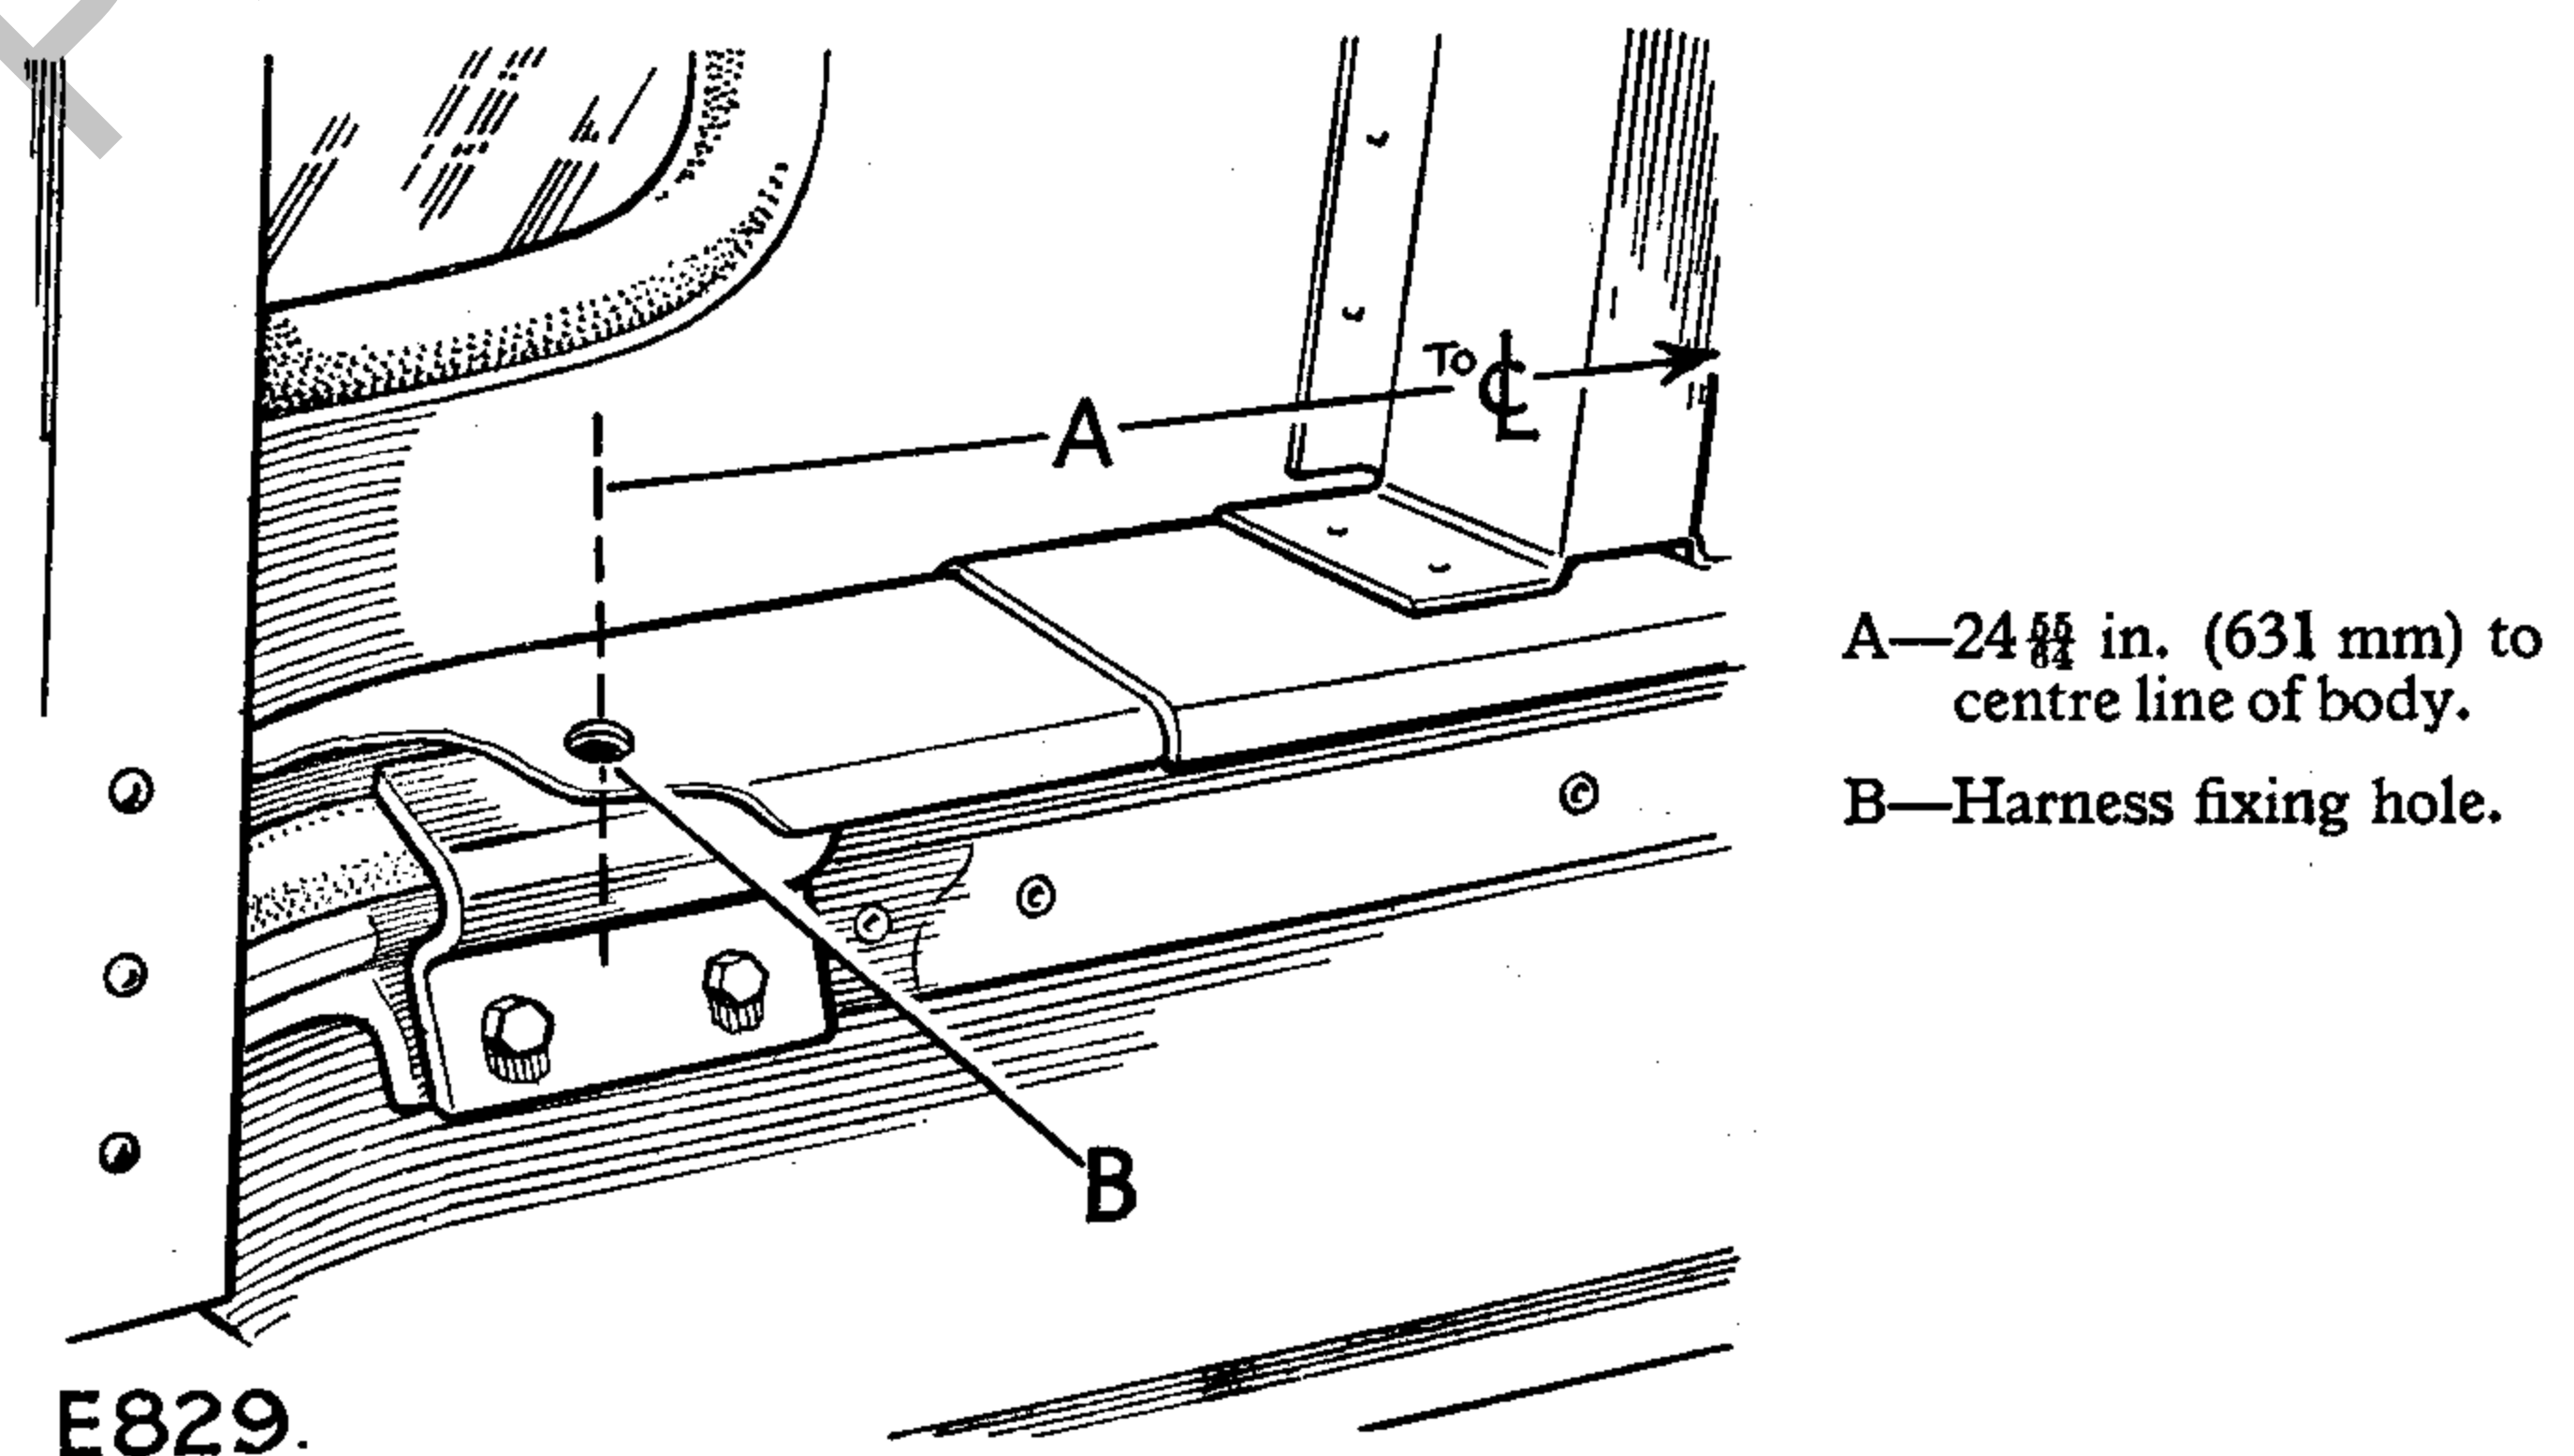

Fig. 12. Cab mounting assembly in position.
9. Remove the outboard distance piece, securing cab to seat bulkhead capping, a distance of $24\frac{5}{8}$ in. (631 mm) from the centre position of vehicle, as shown in Fig. 12.